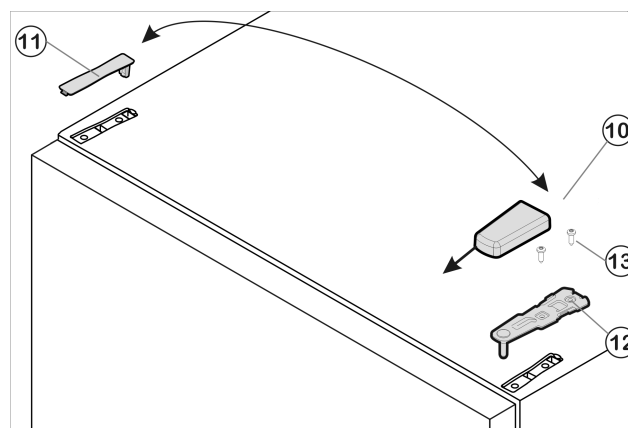

Fig. 17
► Pull cover *Fig. 17 (10)* forward and then upwards to remove.
► Lift off cover *Fig. 17 (11)*.
► Unscrew upper bearing bracket *Fig. 17 (12)* (2 x Torx 25) *Fig. 17 (13)* and pull it upwards to remove.
- Insert upper bearing bracket Fig. 17 (12) on the new hinge side into the door.
- Oberen Lagerbock Fig. 17 (12) **fest mit 3 lb-ft (4 Nm) anschrauben** (2 mal Torx 25) Fig. 17 (13). Schraubblöcher evtl. vorstechen oder Akkuschauber verwenden.
- Snap both cover Fig. 17 (10) and cover Fig. 17 (11) into place on the opposite side.